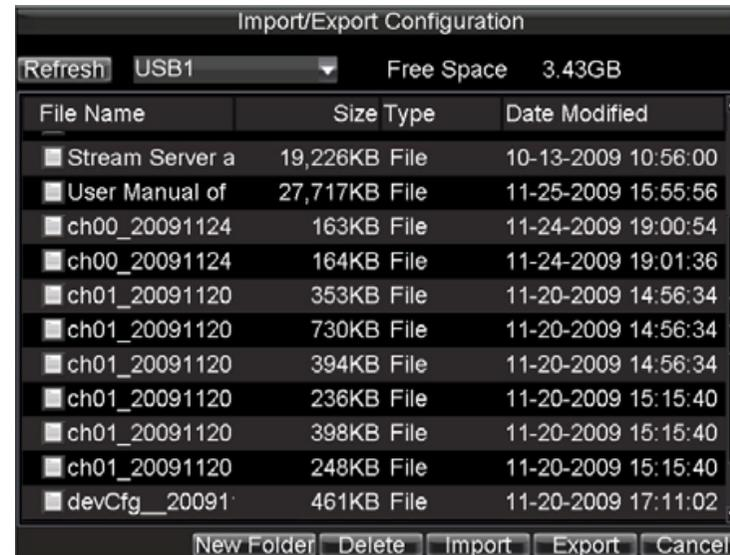

Figure 14.10. Import/Export Configuration Menu
- 1) Click Menu > Maintenance > Configuration to enter the Import/Export Configuration menu, shown in Figure 14.10.